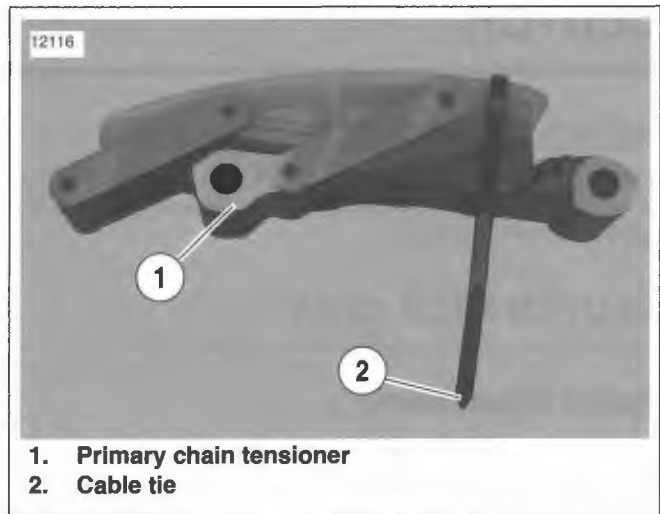

Figure 6-23. Securing Primary Chain Tensioner
- See Figure 6-23. Insert cable tie (2) as shown to hold wedge in place. Make sure end of cable tie is located below primary chain tensioner. If cable tie is installed this way, it will hang below primary cover gasket surface and serve as a reminder to remove cable tie before installing primary cover.